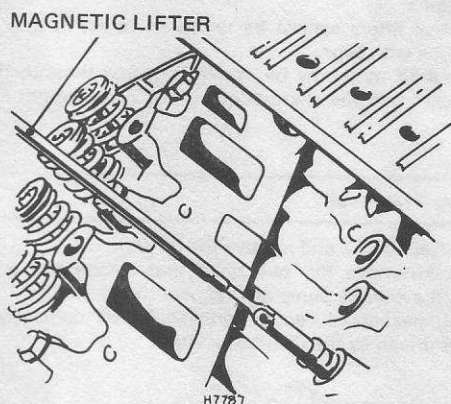

Fig. 1.17 Removing a valve lifter using a magnet (Sec. 14)
- 1 The valve lifters may now be removed from the cylinder block by pushing them up from the camshaft (which can be revolved if necessary to raise the valve lifters) and lifting them out. **Note:** *With the engine in the car a magnet may be required to withdraw them, (see Fig. 1.17).*